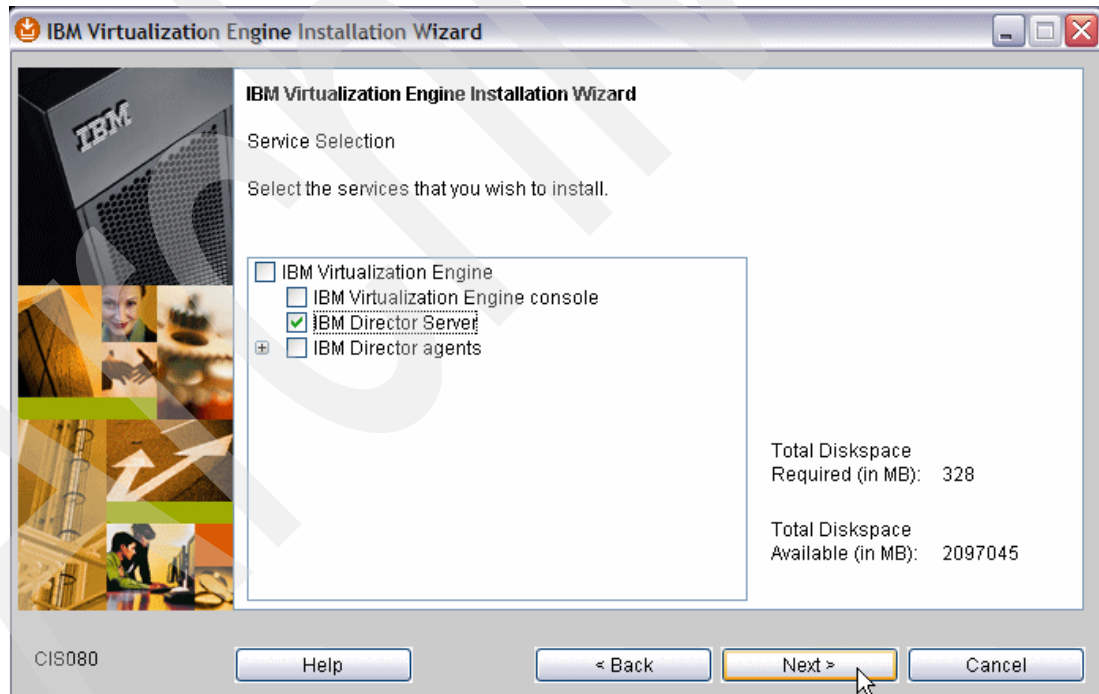

Figure 5-12 Service Selection window, click Next
8. On the Service Selection Summary window (Figure 5-12), verify your selections. If the summary is correct, click **Next**.